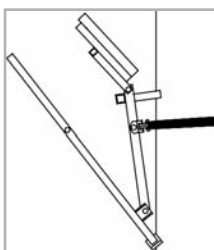

fig 1
Step 1: Fold **PLATFORM** upward. This will de-activate "Camming Action" and release pressure from strap (fig 1).